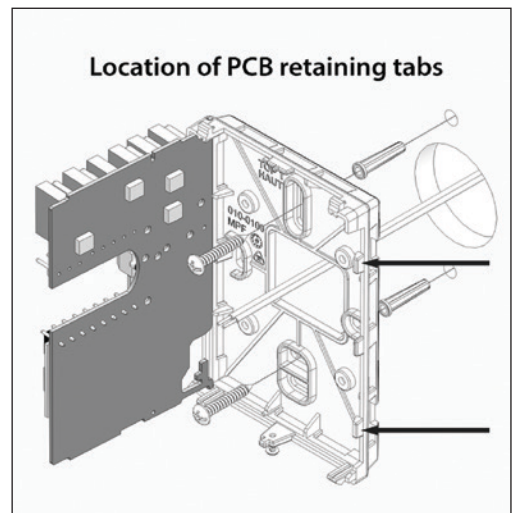

Figure-2 Opening the PCB
1. Swing open the Fan Coil Terminal Equipment Controller PCB to the left by pressing the two PCB retaining tabs (Figure-2).
7. Insert screws in the mounting holes on each side of the base (Figure-2).